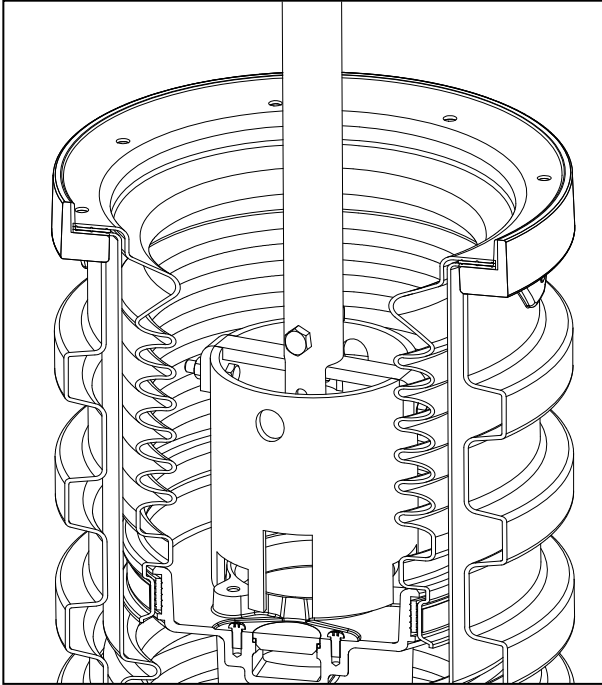

Figure 3
**Primary Bucket Install/Removal:** (See Figure 3)